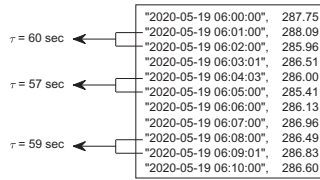

Figure 2.38 Some of the measurements in Exercise 2.8 and examples for calculating τ .
- 2.8** File E2-8.csv contains voltage measurements over a period of 12 hours. The reporting rate of the measurements is *almost* one reading per minute. The first few readings are shown in Figure 2.38. Suppose τ denotes the time difference (in seconds) between any two consecutive readings of voltage.